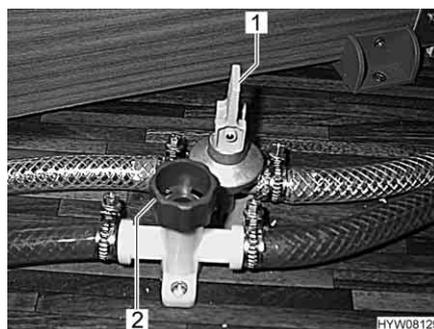

Fig. 158 Drain cocks
- Close all boiler drain cocks. To do this, position the rocking lever (Fig. 158,1) horizontally or turn the cap (Fig. 158,2) in a clockwise direction.
- Open all boiler drain cocks. To do this, position the rocking lever (Fig. 158,1) vertically or turn the cap (Fig. 158,2) in an anticlockwise direction.